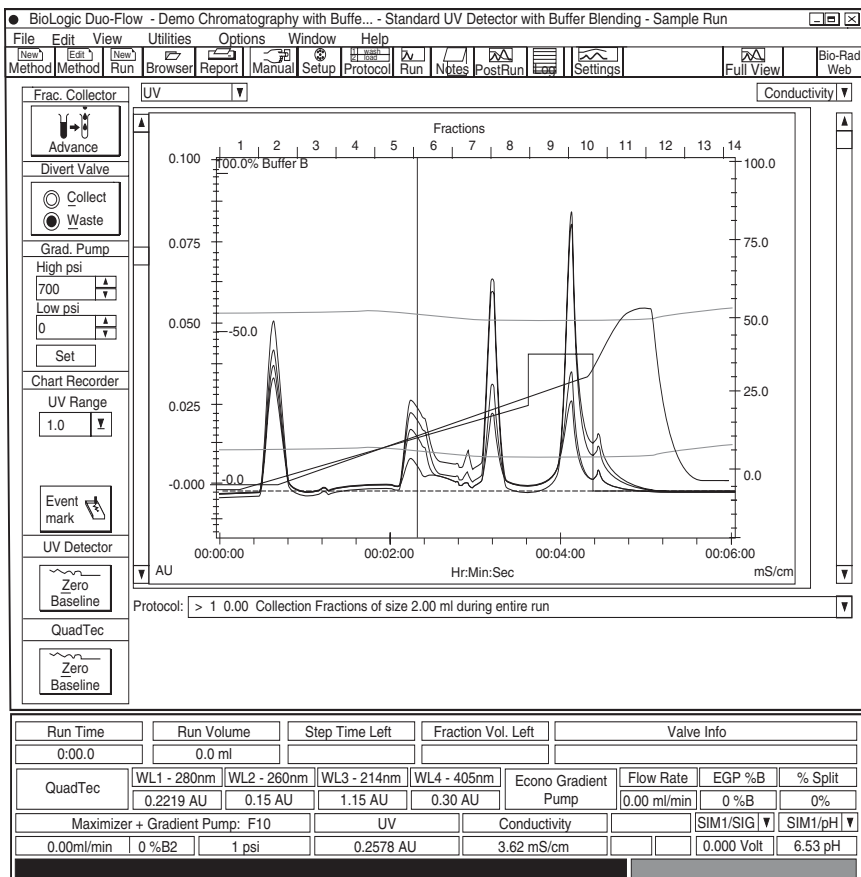

Fig. 12. Run screen (QuadTec UV/Vis detector traces)
- f. Figures 12 and 13 show typical run screens and chromatograms for this separation using the UV detector or QuadTec UV/Vis detector.